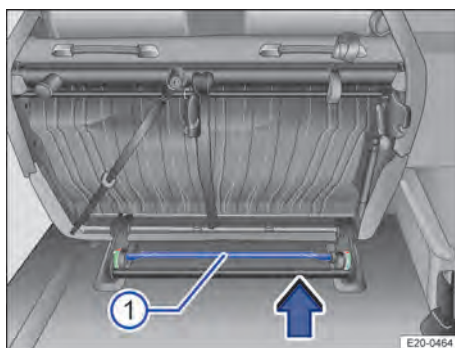
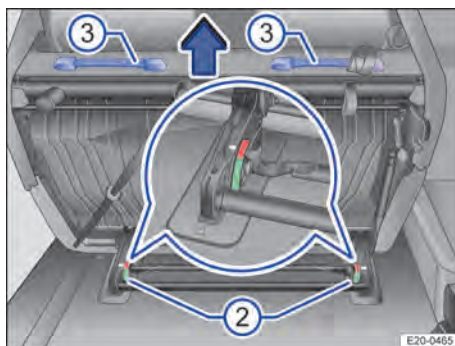

Fig. 69 Second row of seats: Removing the two-seat bench.
Fig. 70 Second row of seats: Removing the two-seat bench.
3. Pull the rods → Fig. 69① in the direction of the arrow until both locking marks → Fig. 70② are in the red area.